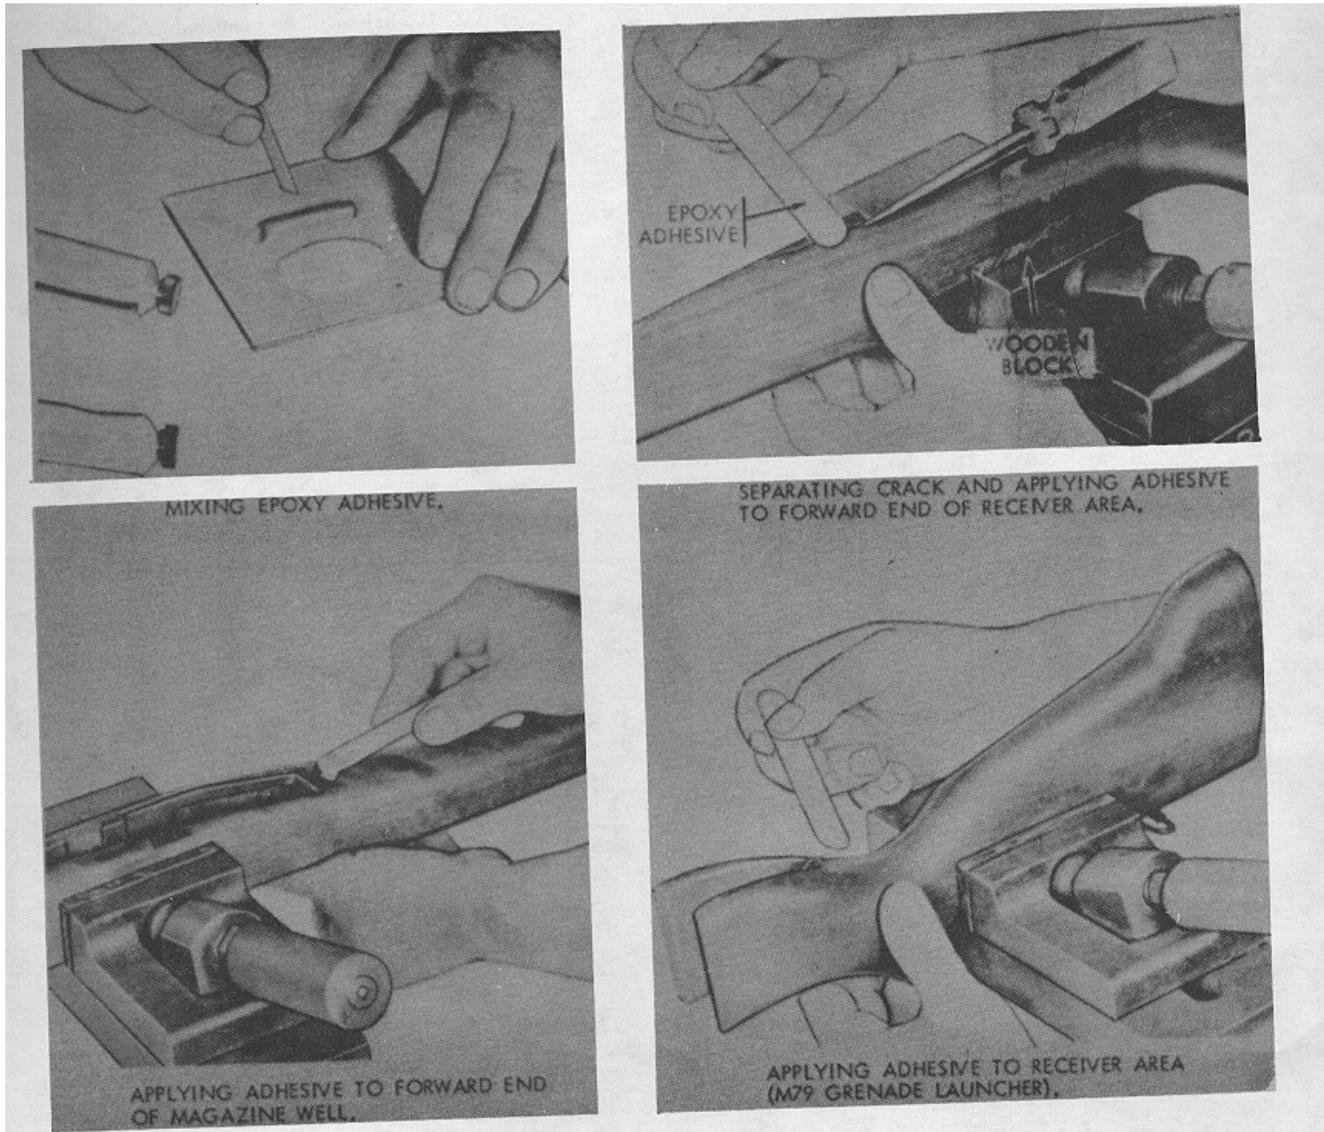

Figure 3-5. Repairing damaged, wooden stocks with epoxy adhesive (M1, M2 Carbines, M1, M14 Rifles and M79 Grenade Launcher).
c. Proceed with repair as indicated in figure 3-5. The method of spreading the crack prior to inserting the adhesive is the same on all weapons having wooden stocks.